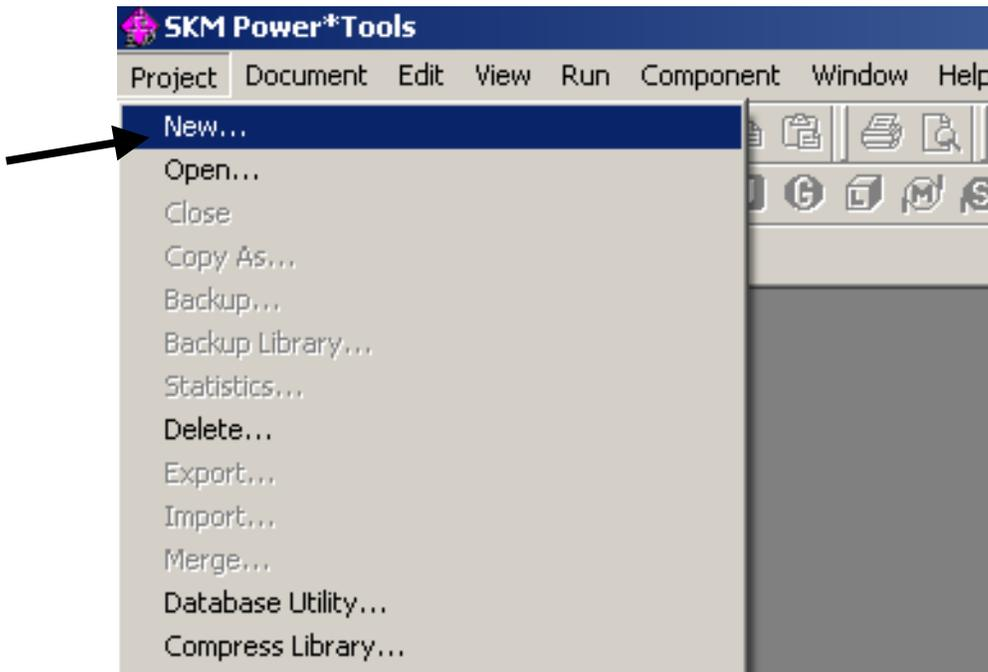

Fig. 2. Using the Project>New command.
3. Make sure that no projects are open by clicking **Project>Close**, then click the **Project>New** command, as shown in Fig. 2.